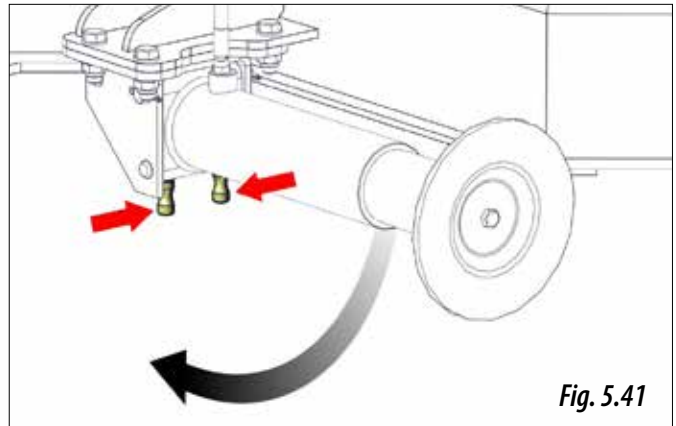

Fig. 5.41
- 1- Hold the support leg and release the latches so that the leg can be moved (Fig. 5.41).